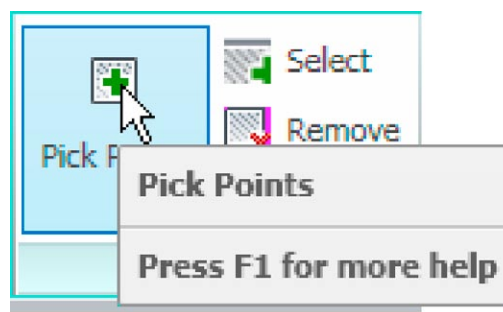

Fig. 8.8 Left-click **Pick Points** in the **Hatch Creation/Boundaries** panel
4. Left-click **Pick Points** in the **Hatch Creation/Boundaries** panel and pick inside the areas to be hatched (Fig. 8.8).